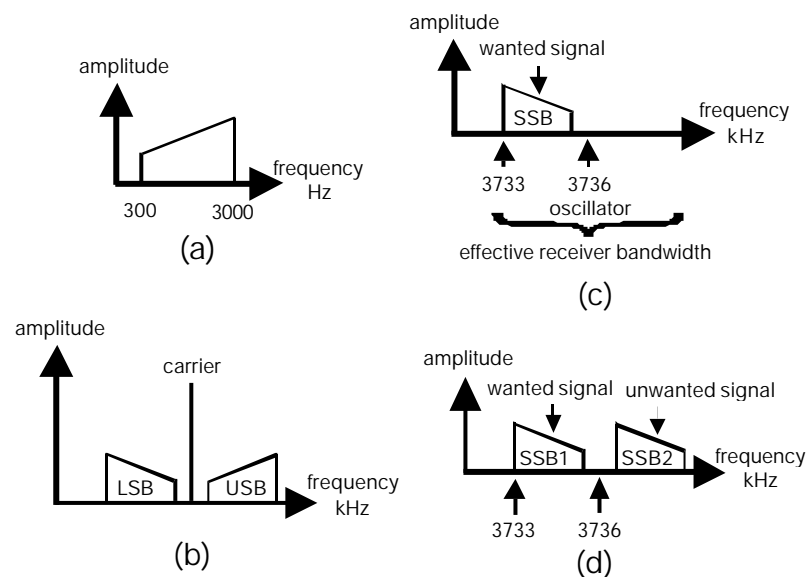

Fig. 7 Spectrum diagrams
To explain SSB reception, we first consider the audio (speech) input to a typical SSB transmitter to be from 300 Hz to 3000 Hz as shown in Fig. 7(a), the diagrammatic 'wedge' symbol. The 'low end' of the wedge represents the 300 Hz end, and the 'high end' of the wedge represents the top end of the speech range, 300 to 3000 Hz. This diagram is for purposes of explanation only and should not be taken to represent the voice energy distribution in actual practice. It is usually the other way around - the low notes contain most of the voice energy whilst the high pitch notes are weak but are very necessary for speech recognition purposes.
However, at times you may also hear an interfering signal. If there are two quite separate but adjacent SSB signals - shown as SSB1 and SSB2 in Fig. 7(d) - and you are listening to the lower frequency one, you will hear the higher frequency one as 'inverted speech'. The 3000 Hz component of that higher-frequency SSB signal will be heard by you as a low-pitch audio signal and its 300 Hz component as a high pitch! Fortunately this interference is almost indecipherable by the human ear. Your ear will tend to discard it as noise and will receive and listen to the 'natural-sounding' wanted signal. Of course this ear-discrimination characteristic also depends upon the relative levels of the two signals.
Listening to an amplitude modulated (AM) signal - Fig 7(b) - on this type of receiver, requires the oscillator to be tuned very carefully to carrier 'zero beat'. A slight shift from true zero beat will show a low-speed warble effect on the audio signal that you hear. Two-thirds or more of the radiated energy of an AM transmission is in the carrier (which carries no intelligence) and the rest of the energy is divided between the two sidebands. This shows up on reception during tuning, with a very loud squeal from the beat with the carrier until zero beat is reached and with much weaker audio from the sidebands.